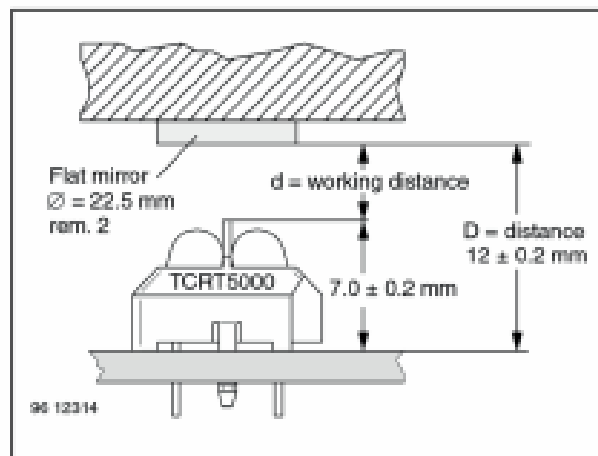

Figure 3 - Test Circuit
- (1) $T_{amb} = 25^\circ\text{C}$, unless otherwise specified
- (2) See figure 3
- (3) Test surface: mirror (Mfr. Spindler a. Hoyer, Part No. 340005)
Tube Specification Figure 3